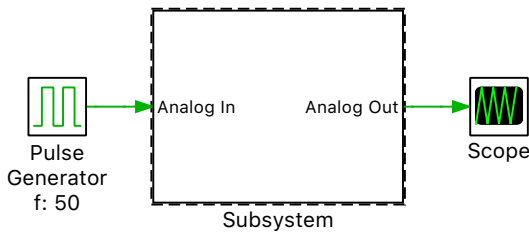

Figure 10: Subsystem in CodeGen mode with a dashed bold border
- 5 Right-click the Subsystem and select the **Subsystem + Simulation Options + CodeGen** option. Once you select the CodeGen mode the subsystem border will change to a dashed bold line as shown in Figure 10. When in CodeGen mode, PLECS uses the discretized C code representing that subsystem. Scopes within the discretized subsystem will not update, but Scopes external to the subsystem will.